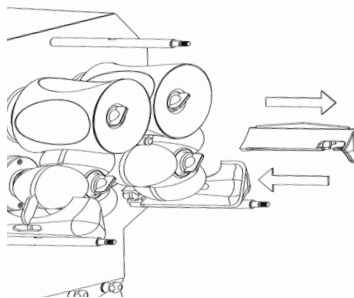

Figure 10
- 5- Grasp the handle of the Blade and pull it towards you. **(Figure 10).**